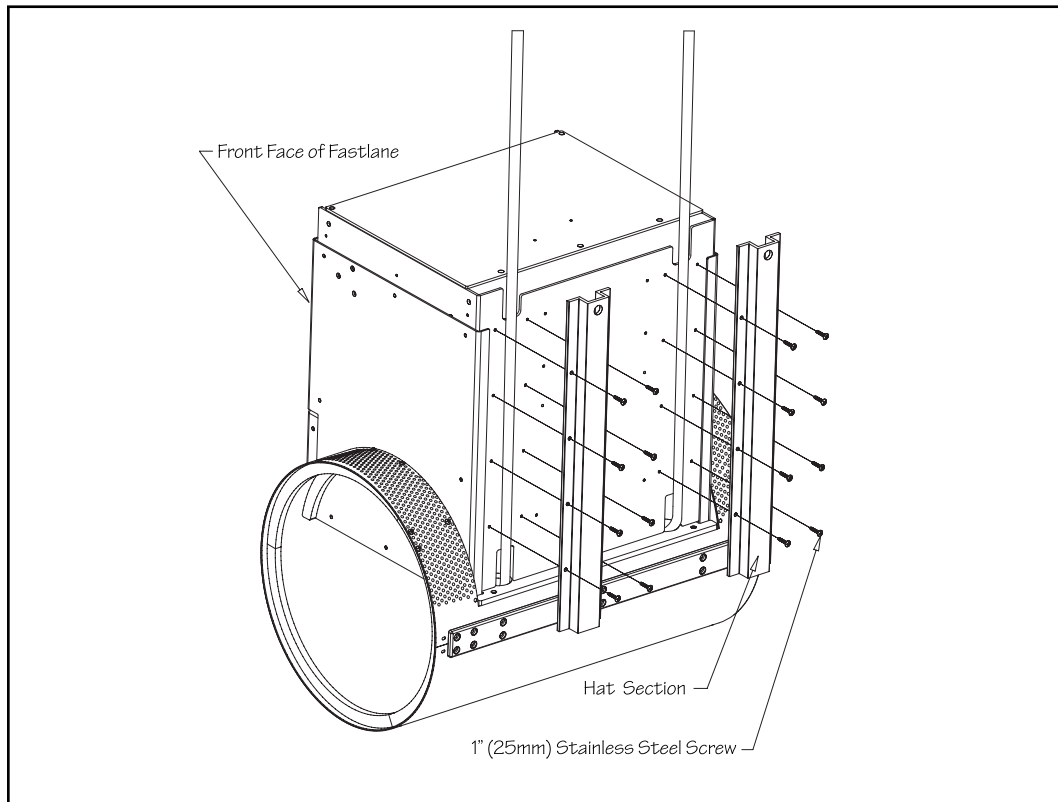

Fig. 6.5
6.7 Carefully lay the Fastlane Pro onto its face. Position the hydraulic hoses up the back of the upper housing. The two hat sections will be placed over the hydraulic hoses. Make sure that the mounting hole in the end of the hat section is facing up. Use the provided 1" (25mm) stainless steel screws to attach the hat sections to the back of the upper housing. There will be 8 screws per hat section (Fig 6.5).